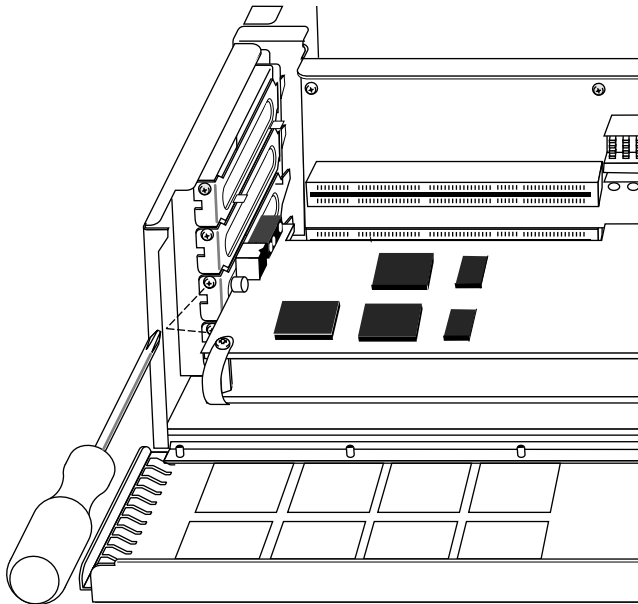

Figure 5-8 Removing the Screws From the Metal Extension
4. Remove the screws attaching the board set to the workstation slots as shown in Figure 5-8. The number of screws to be removed equals the number of boards you are removing.